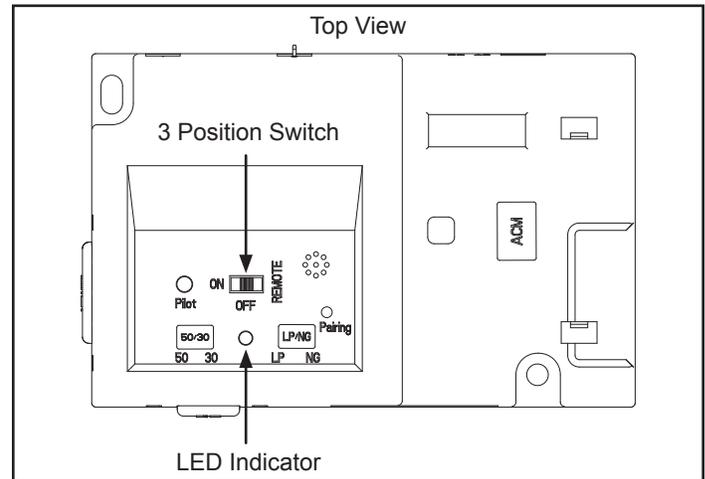

Figure 4.5 - IFT-ECM
The IntelliFire™ Touch intermittent pilot ignition system comes with a battery backup system that enables the system to operate in a power outage. The system offers seamless transition from household AC power to battery backup. A factory-installed battery pack is located in the control cavity of the appliance. See Figure 4.5. Battery longevity and performance will be affected by long term exposure to the service temperatures of this appliance.
1. Access the control cavity of the appliance, Figure 4.5. The decorative front may need to be removed.
1. The Electronic Control Module (IFT-ECM) has a three-position ON/OFF/REMOTE selector switch that must be set for proper operation, Figure 4.5. When changing switch positions, it is important to pause in each position for 1-2 seconds.